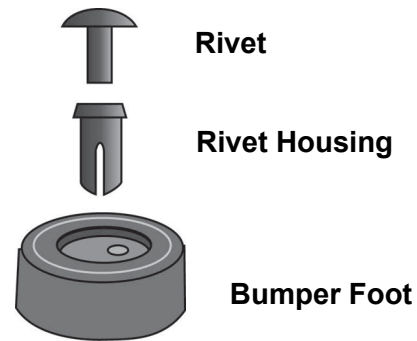

Figure 12. Parts of the Bumper Feet
1. Disassemble the bumper feet by removing the rivets and rivet housings from the bumper feet. See Figure 12.